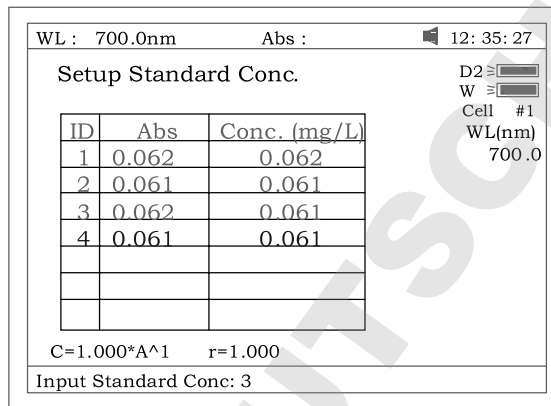
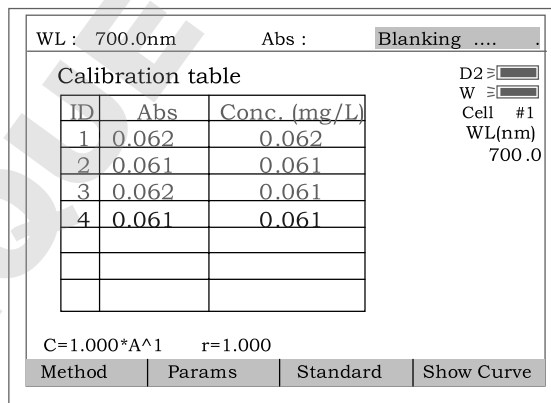

Fig 31
Fig 32
3.3.1 Enter standard concentrations of samples by pressing the Numeric keypad followed by **【ENTER】**. Press **【^】** or **【V】** to modify the inputted data (Fig 31). Press **【ESC】** to finish inputting and to exit (Fig 32).
3.3.2 Push the blank cuvette into the light path, press **【0Abs/%100T】**, the instrument will step to the wavelength and blank. See Fig 32.